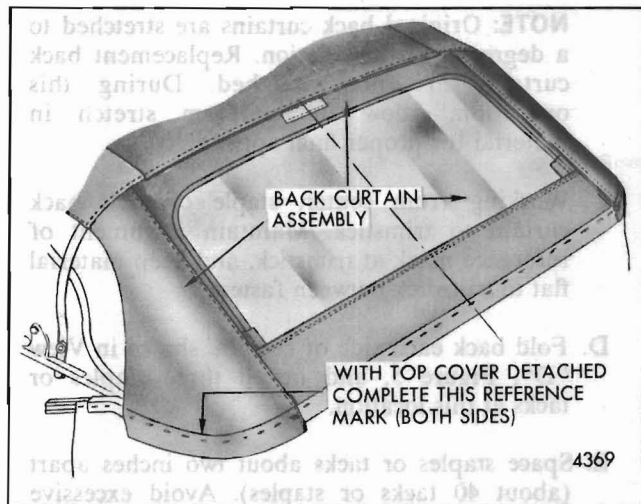

Fig. 10-Completing Reference Marking On Back Curtain
8. With staple removing tool, such as narrow screwdriver, detach both sides of top cover from trimstick. Pull top cover upward, and complete marking upper edge reference of trimstick on back curtain (Fig. 10).